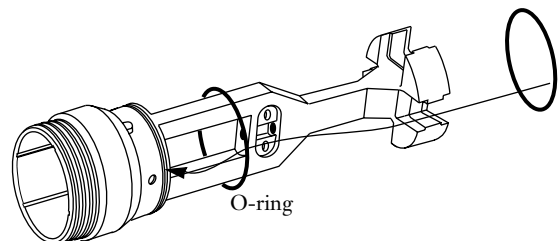

Figure 10
5.1 Prepare the body of the fan-out by slipping an O-ring into place as shown in Figure 10 (a large fan-out body is shown).